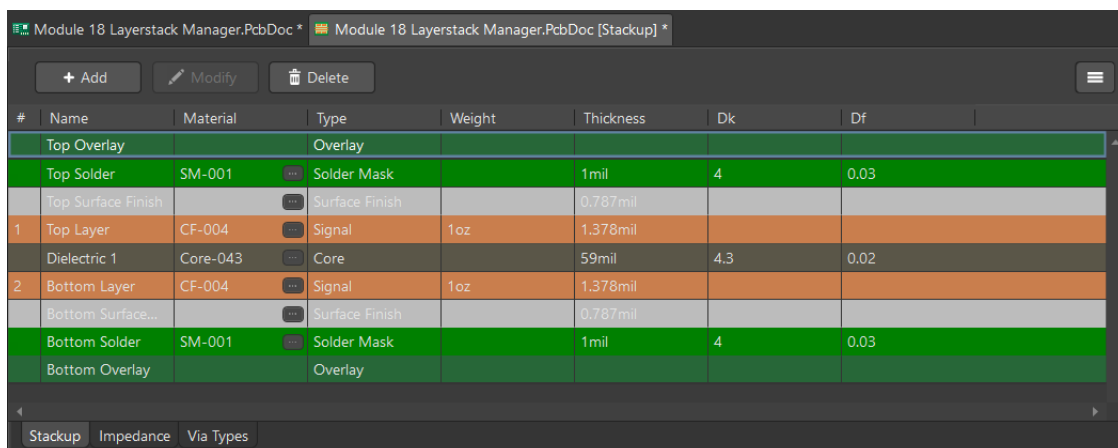

Figure 2. 2 Layer Layerstack loaded from Altium 365
12. Notice, after selection the layer stack is updated, as shown in Figure 2.